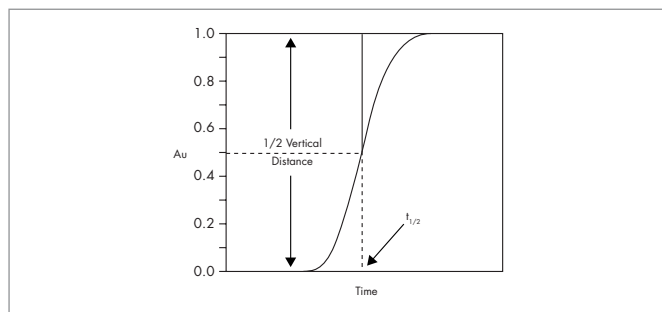

Figure 7: Determination of Dwell Volume
3. Equilibrate the system with eluent A until a stable baseline is achieved. Switch to 100% eluent B and record the half height of the step. Refer to Figure 7 for an illustration. The dwell volume should be less than 1 mL. If this is not the case, see section on System Modifications to reduce your system volume.